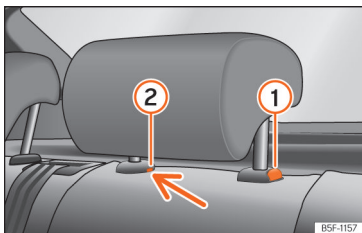

Fig. 97 Rear head restraint: removal.
- Press button >>> **Fig. 97 ①**, while simultaneously pressing on the safety hole **②** with a flat screwdriver a maximum of 5 mm wide, and remove the headrest.